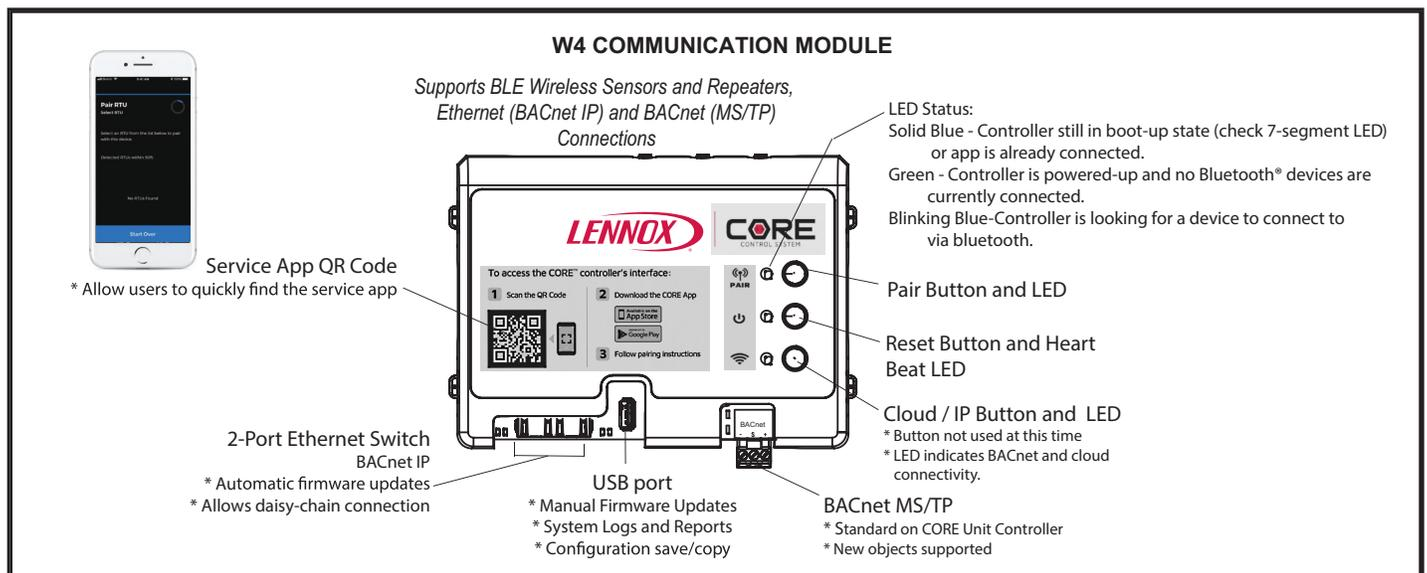

FIGURE 19
- 2 - Press and hold the pair button for five seconds. See FIGURE 19.